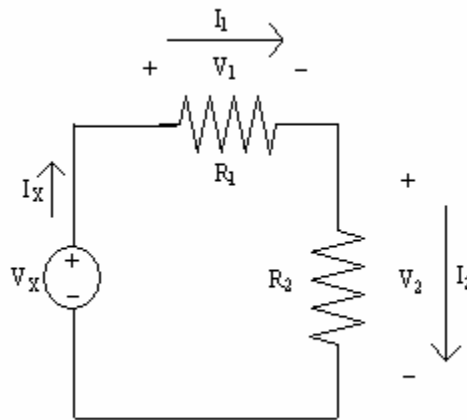

Figure 16
- a. Build the circuit shown in figure 16 on your breadboard. Set V_x to be 5 V and $R_1 = R_2 = 1$ k.